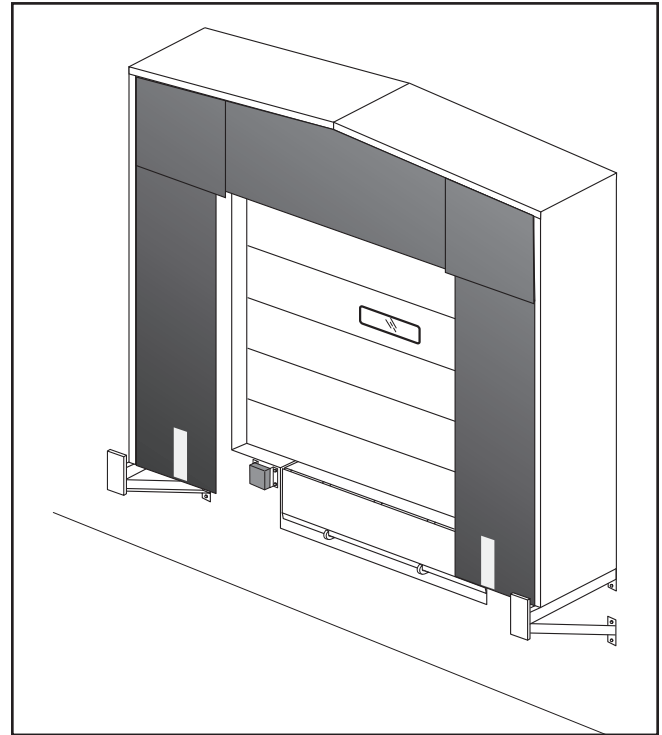

Figure 71
- Truck shelters – Truck shelters have a rigid or flexible frame equipped with curtains. The frame is installed to the building wall. The curtains extend and seal against the wall and the rear of the truck (Figure 71).